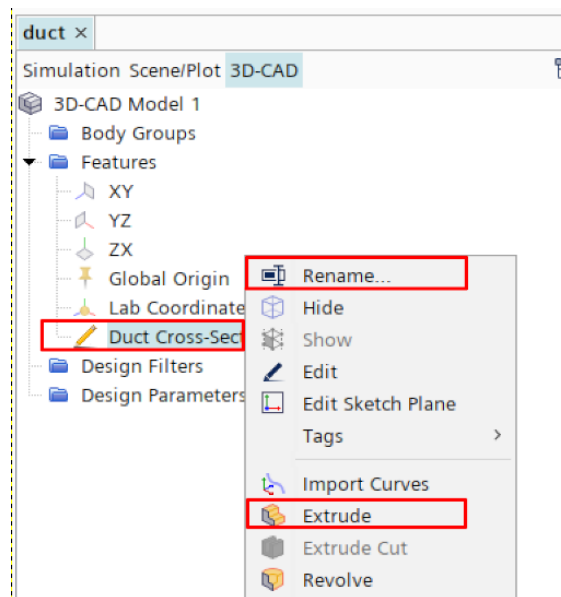

Figure 10: Renaming and extrusion features in tree.
12. Right click on Duct Cross-Section Sketch and select the Extrude option. This process and the renaming process is shown in Figure 10.